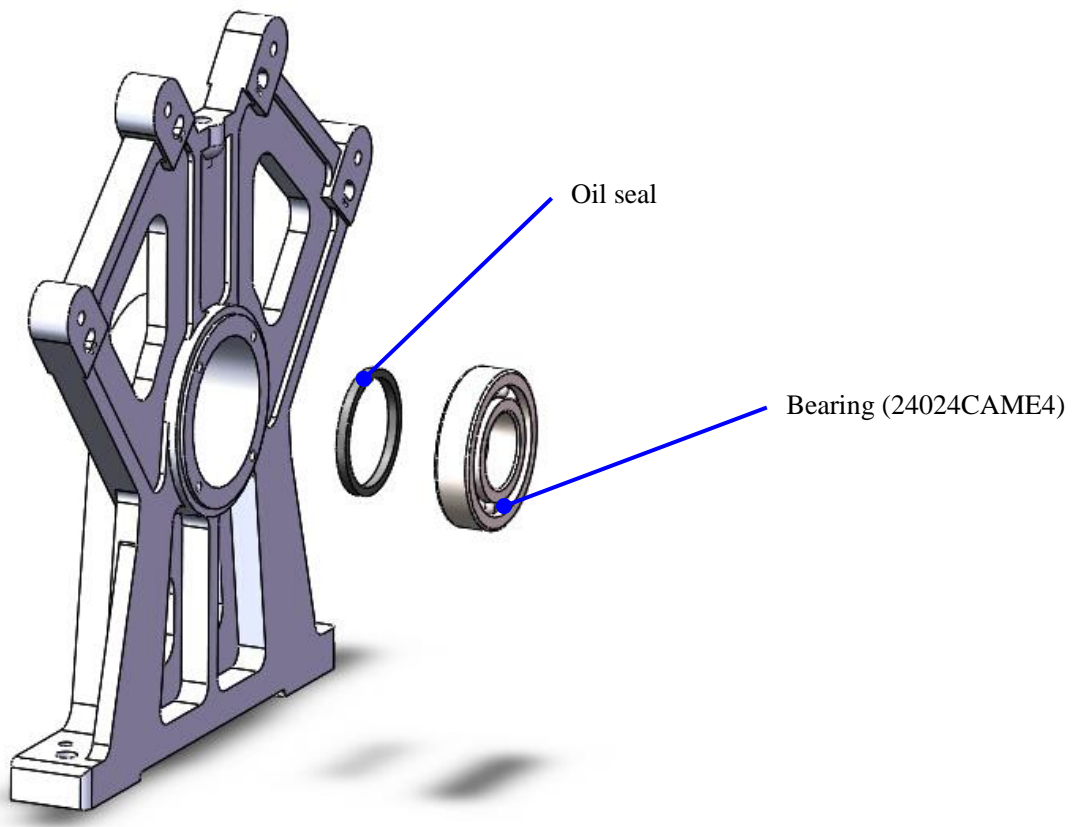

Figure 59: Remove the bearing
9. Take off the bearing (24024CAME4). See Figure 59.